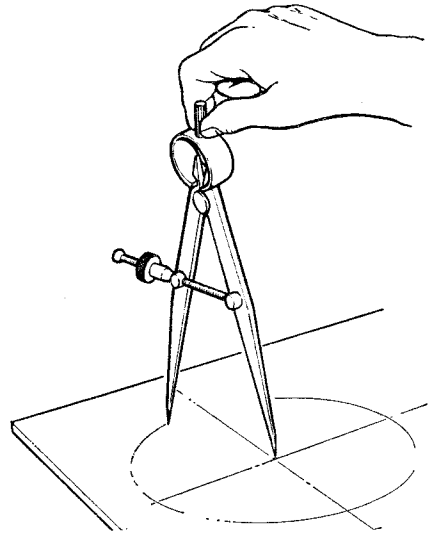

Fig. 31 Dividers
36. Dividers. Dividers are used to set out distances and to scribe arcs and circles (Fig. 31). They are classified by the length of the legs which are made of hardened steel and should be kept equal in length. When dividers are not in use they should be protected by sticking them into a cork.